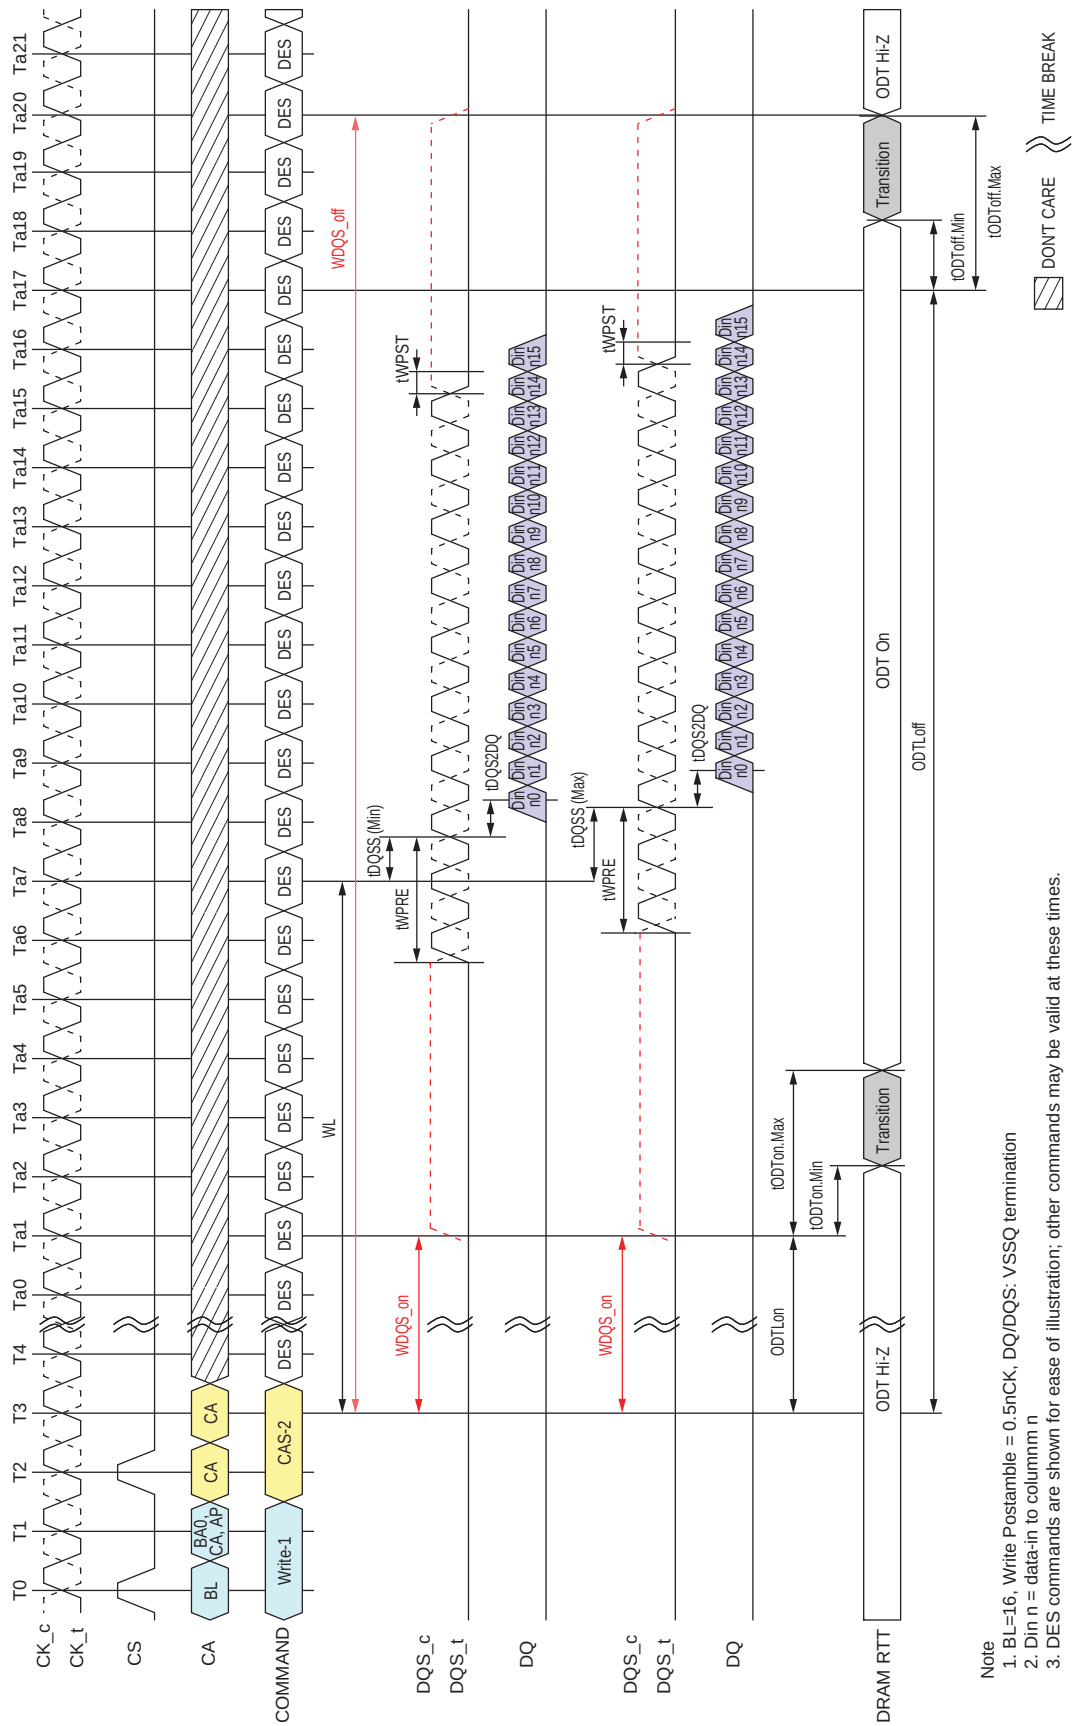

Figure 4.116 — Asynchronous ODTon/ODTOff Timing
1. ODTLoN is referenced from CAS-2 command. See Figure 4.116.